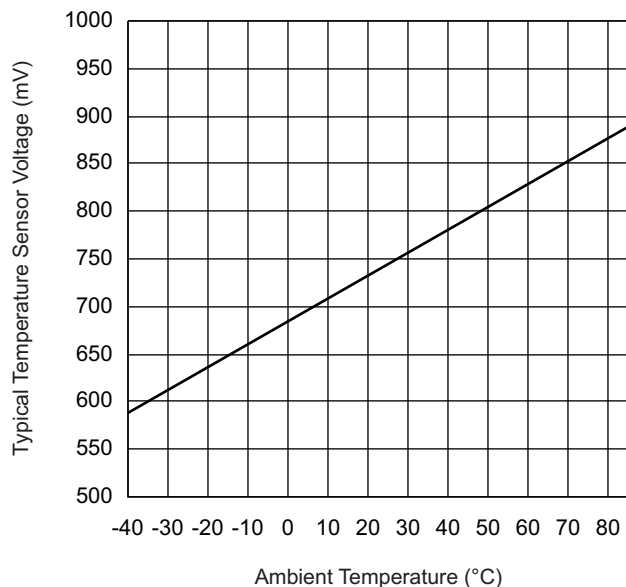

**Figure 5-16. Typical Temperature Sensor Voltage**
| $V_{SENSOR}$ Temperature sensor voltage (2)(see Figure 5-16)        | ADC12ON = 1, INCH = 0Ah, $T_A = 0^\circ\text{C}$                    | 2.2 V      |      | 680                 |      | mV            |